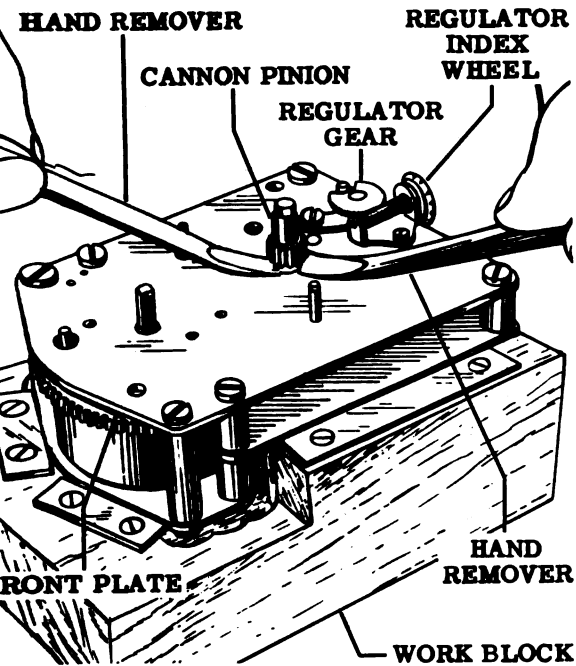

Figure 55
- Using the hand removers with felt pads (Tool No. 2A), pry off the cannon pinion as shown in Fig. 55.